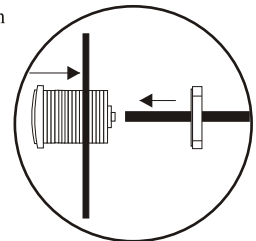

Figure 1
1. Make a hole ( size 1-3/8") for the On/Off switch as shown (see fig 1). Pre-drill required.